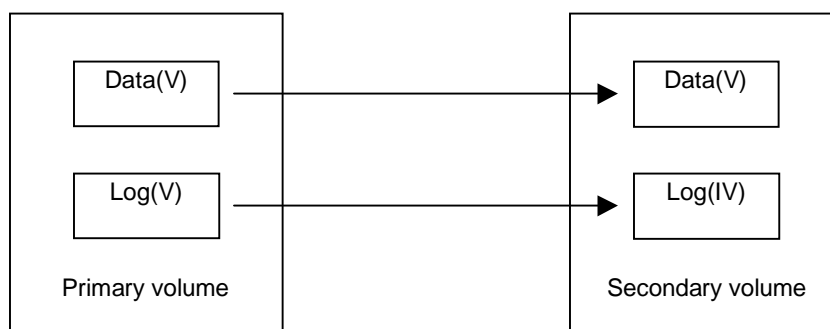

Figure 6.1 Relationship Between Log File and Data File in PAIR Status
When a take-over by the S-VOL occurs as shown in Figure 6.1 (two errors have already occurred), Data(V) remains in the rollback process at the secondary host, and full recovery cannot be performed. To avoid this situation, you can define the fence level of the Redo log file as **Data**, so that the P-VOL returns an error if a data disagreement is expected to occur concerning a write request issued from the host. The **Data** fence-level setting maintains full consistency between the Redo log file and the data file, since no data is written to the data file due to the write error at the log file. However, when the fence level is defined as **Data**, a write I/O causes an error even when processing has been suspended due to an error at the S-VOL. In this case, a take-over by the S-VOL occurs, and the significance of the duplex system will be lost. Therefore, if you define the fence level as **Data**, applications must be able to cope with write I/O errors by handling them. Systems that allow disk errors by means of multiplication can function with the **Data** fence-level setting. For example, Oracle multiplies the Redo log file by itself (default = three times).